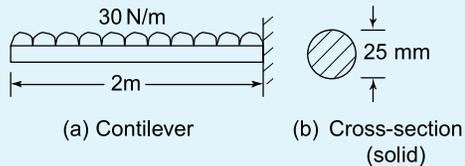
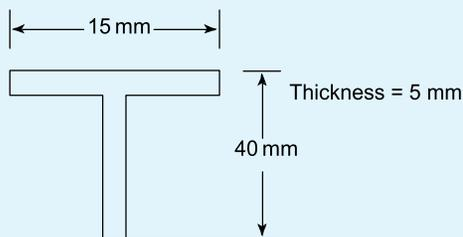

Figure 9.11
Figure 9.12
6. A cantilever of length 2 m, carries a uniformly distributed load of 30 N/m, as shown in Figure 9.11. Determine the maximum stress in the cantilever. [39.1 MPa]
9. If the beam of Figure 9.11 were replaced by another beam of the same length, but which had a cross-section of tee form, as shown in Figure 9.12, determine the maximum stress in the beam.